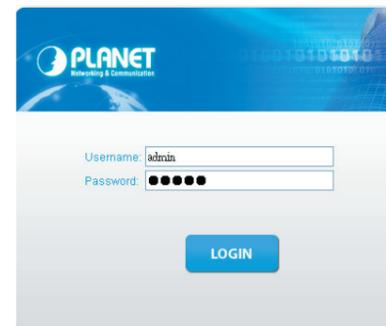

Figure 4-2 Login screen
2. When the following dialog box appears, please enter the default user name "admin" and password "admin" (or the password you have changed before) as shown in Figure 4-2.